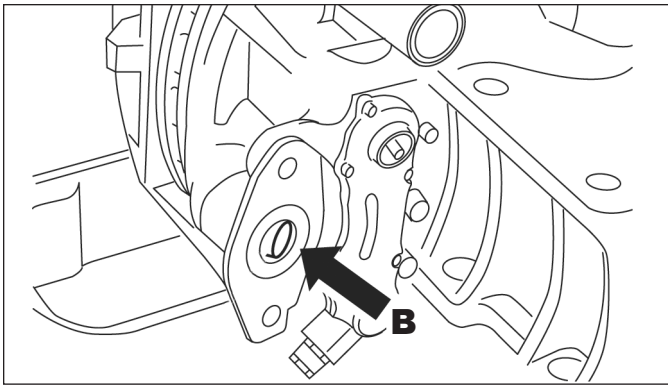

Figure 11 – Spring Brake Installation
1. Ensure the spring brake chamber mounting area is clean and free of any debris. (See *B* in Figure 11).